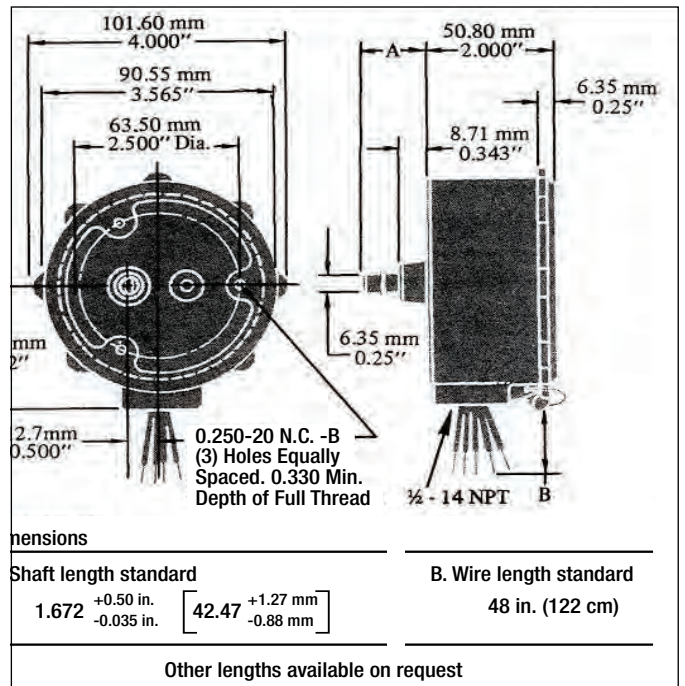

Figure 4. Mounting Dimensions
2. Three equally spaced holes, 0.250-20 UNC-2B, on the back of the case are provided for mounting (see Figure 4). Brackets and mounting arrangements must be sufficient to maintain alignment and minimize side load on shaft bearings.